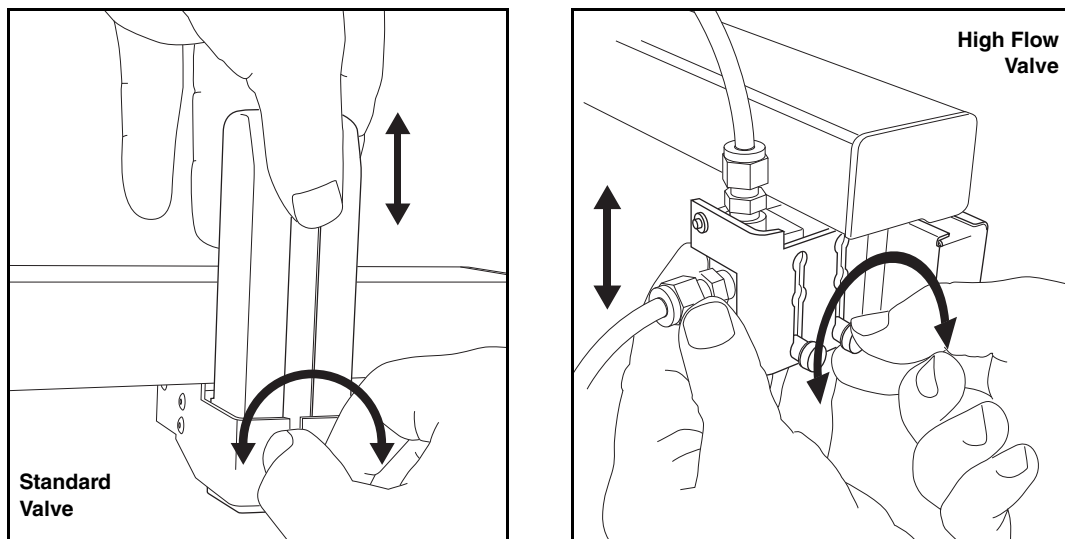

Figure 2-1 Adjusting the height of the standard (left) and high flow (right) diverter valves
3. Loosen the diverter valve thumb screw(s) and raise the diverter valve to its highest position (Figure 2-1). Tighten the thumb screw(s) to secure the diverter valve.
Refer to section 2.2.1 for instructions on connecting tubing to the standard diverter valve. Refer to section 2.2.2 for instructions on the high flow rate valve connections. Both valves are shown in Figure 2-1 on page 2-2.
3. Loosen the diverter valve thumb screw and lower the diverter valve to its lowest position (refer to Figure 2-1). This will expose the ports on the back of the diverter valve. Tighten the thumb screw to secure the diverter valve.